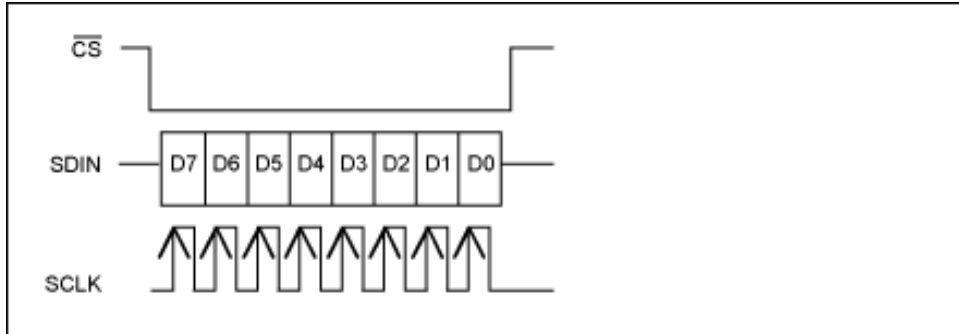

Figure 3. Write operation in autoincrement mode.
1. Autoincrement write mode, used for display memory access, is a single 8-bit operation (**Figure 3**). The start address must be set before the data is written. When performing the autoincrement write for the display memory, the 8-bit address is internally generated; only 8-bit data is required at the serial interface, as shown in Figure 3.